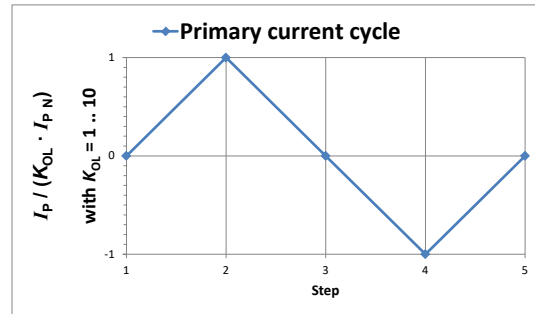

Figure 2: Current cycle used to measure magnetic and electrical offset (transducer supplied)
- or in a known magnetization state, like in the current cycle shown in figure 2.
Using the current cycle shown in figure 2, the electrical offset is: